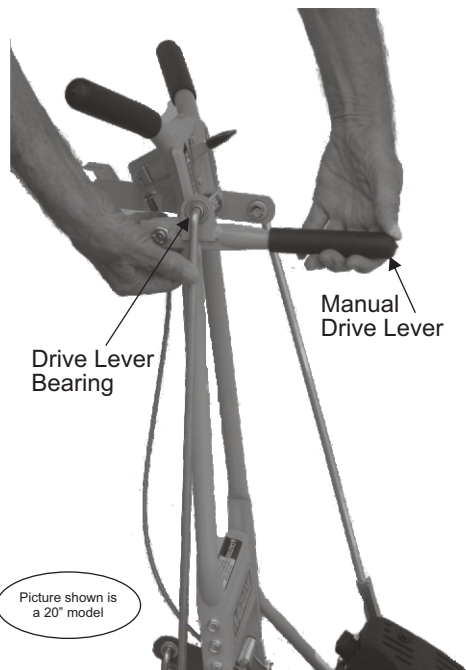

FIGURE 4: Insert the upper end of the drive control rod through the manual drive lever bearing, then secure with a cotter pin.
- B. Rotate the manual drive lever for work, and insert the upper end of the drive control rod through the manual drive lever bearing (see Figure 4 on page 6).